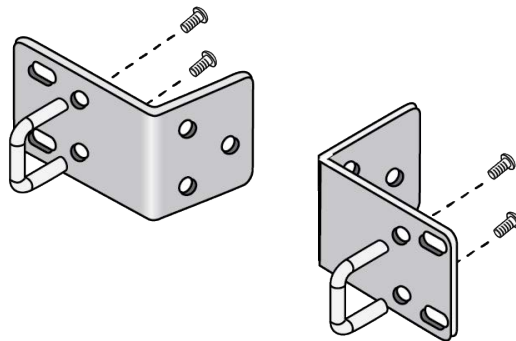

Figure 36. Attaching the Handles to the RKMT-J13 Brackets
3. Attach the handles to the RKMT-J13 brackets with the four 3x6mm screws included in the kit. The handles are optional. Refer to Figure 36.